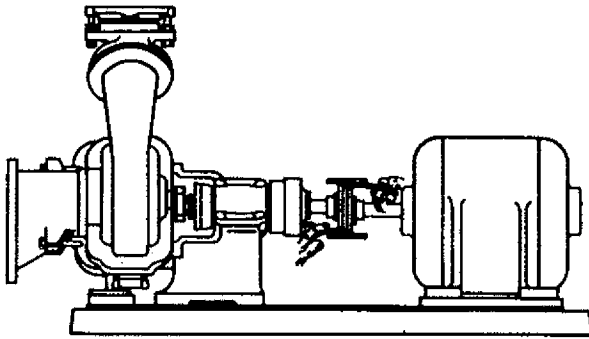

Fig. 4
6. Check parallel misalignment—shaft axis parallel but not concentric—by laying straight edge across both coupling rims at top, bottom and both sides. See Fig. 4.